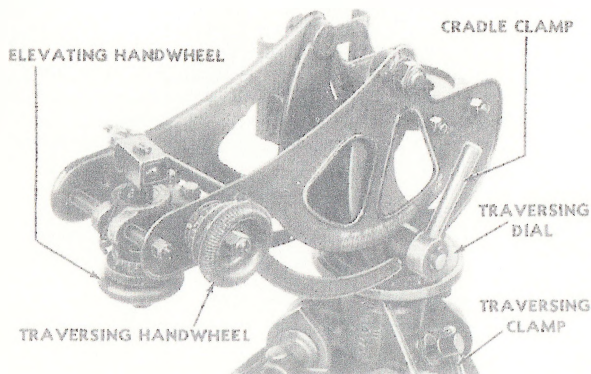

Fig. 5. Elevating and traversing mechanism.
There are two control mechanisms used in firing the mortar -- elevating mechanism and traversing mechanism (TM 9-1205). Mechanisms are located together and are termed the elevating and traversing mechanism (fig. 5). This mechanism is housed in rear end of cradle frame. Elevating and traversing screws, actuated by handwheels, provide mechanical means for manipulation in single-mil increments.
a. Elevating mechanism. Large adjustments in elevation are made by means of the cradle clamp on right side of cradle (fig. 5). The gun pintle housing, equipped with a quick release latch (locking lever), is assembled in forward end of cradle. A mil scale, reading from 500 to 0 to 400, and subdivided to 25-mil units, is etched on upper side of elevation arc.
b. Traversing mechanism. Traversing clamp allows large changes in traverse (fig. 5). Traversing dial, seated on top of socket, may be rotated in its seat. The dial is graduated 3200 mils in both directions from zero (fig. 5). Traversing dial may be secured in any desired position by means of traversing dial clamp.